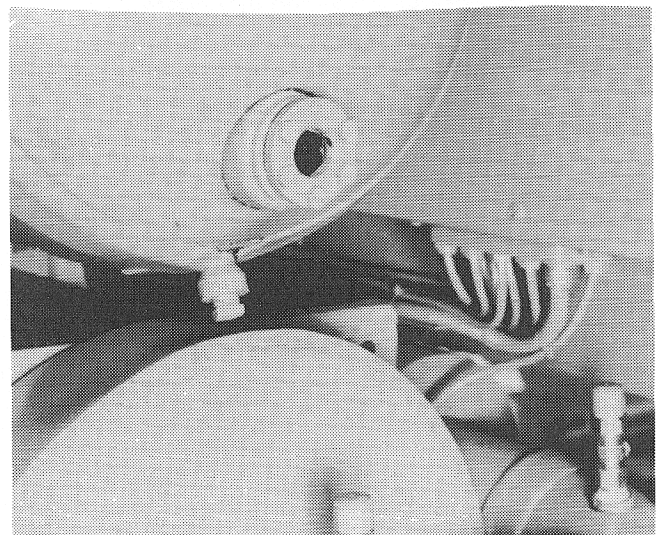

Fig. 27 Sight glass on oil separator.
- 5.12 Check the level in the oil separator. See Fig. 27. Note that this must always be carried out while the unit is running. Normally, the oil level shall lie within the sight glass. If the level drops beneath the sight glass and does not rise back after 10 minutes of operation, top up the oil in the system. See Fig. 7.
- 6.3 Check the level in the oil separator. It must reach at least half way up in the sight glass. See Fig. 27. If necessary, add oil (see Fig. 7) of the same type as that set forth on the unit's dataplate (see Fig. 1).